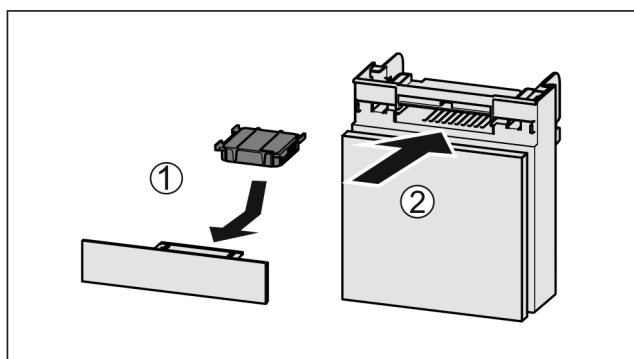

Fig. 115
- Insert the carbon filter as shown in the diagram Fig. 115 (1).
- Push the compartment in Fig. 115 (2).